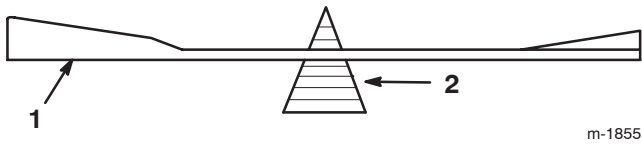

Figure 37
2. Check the balance of each blade by putting it on a blade balancer (Fig. 37). If the blade stays in a horizontal position, the blade is balanced and can be used. If the blade is not balanced, file some metal off the back side of the blade. Repeat this step until each blade is balanced.